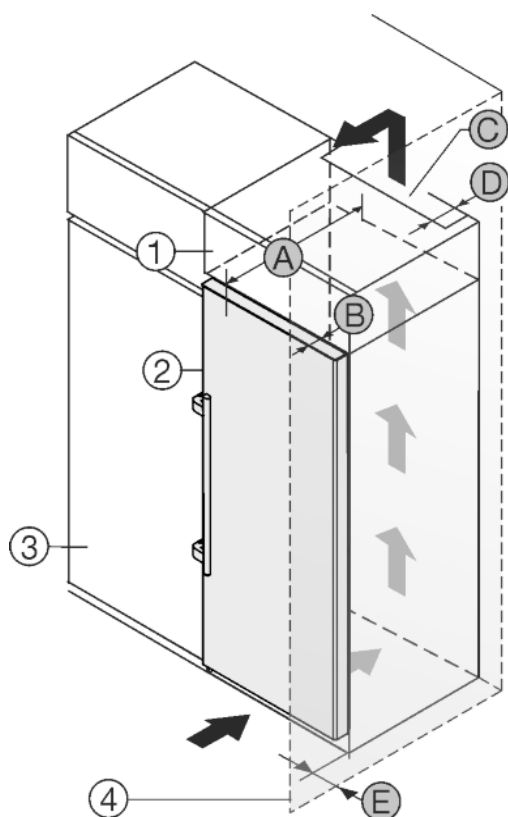

Fig. 24
The appliance can be built into kitchen units. A top cupboard *Fig. 24 (2)* can be added above the appliance in order to bring the appliance *Fig. 24 (1)* up to the height of the fitted kitchen units.
The appliance can be installed right next to the kitchen cabinet *Fig. 24 (3)*. The appliance must stick out by the depth *Fig. 24 (B)* from the front of the cabinet so that the doors can be opened fully. The appliance may protrude further depending on the depth of the kitchen cabinets and whether wall spacers are used.
- There must be a ventilation shaft with the depth *Fig. 24 (D)* at the back of the top cupboard over the entire width of the cupboard.
- The ventilation shaft *Fig. 24 (C)* must be observed under the ceiling.
If the appliance is installed with the hinges next to a wall *Fig. 24 (4)* the distance *Fig. 24 (E)* between the appliance and the wall must be observed. This is how far the handle protrudes when the door is open.